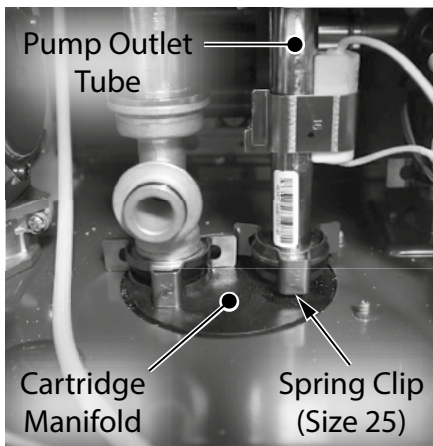

Figure 5 - Remove spring clip from pump outlet tube
- 15 Locate and remove the small spring clip (size 25) securing the pump outlet tube to cartridge manifold as show in Figure 5. Place spring clip aside in a safe place for reinstallation. Disconnect pump outlet tube from manifold.